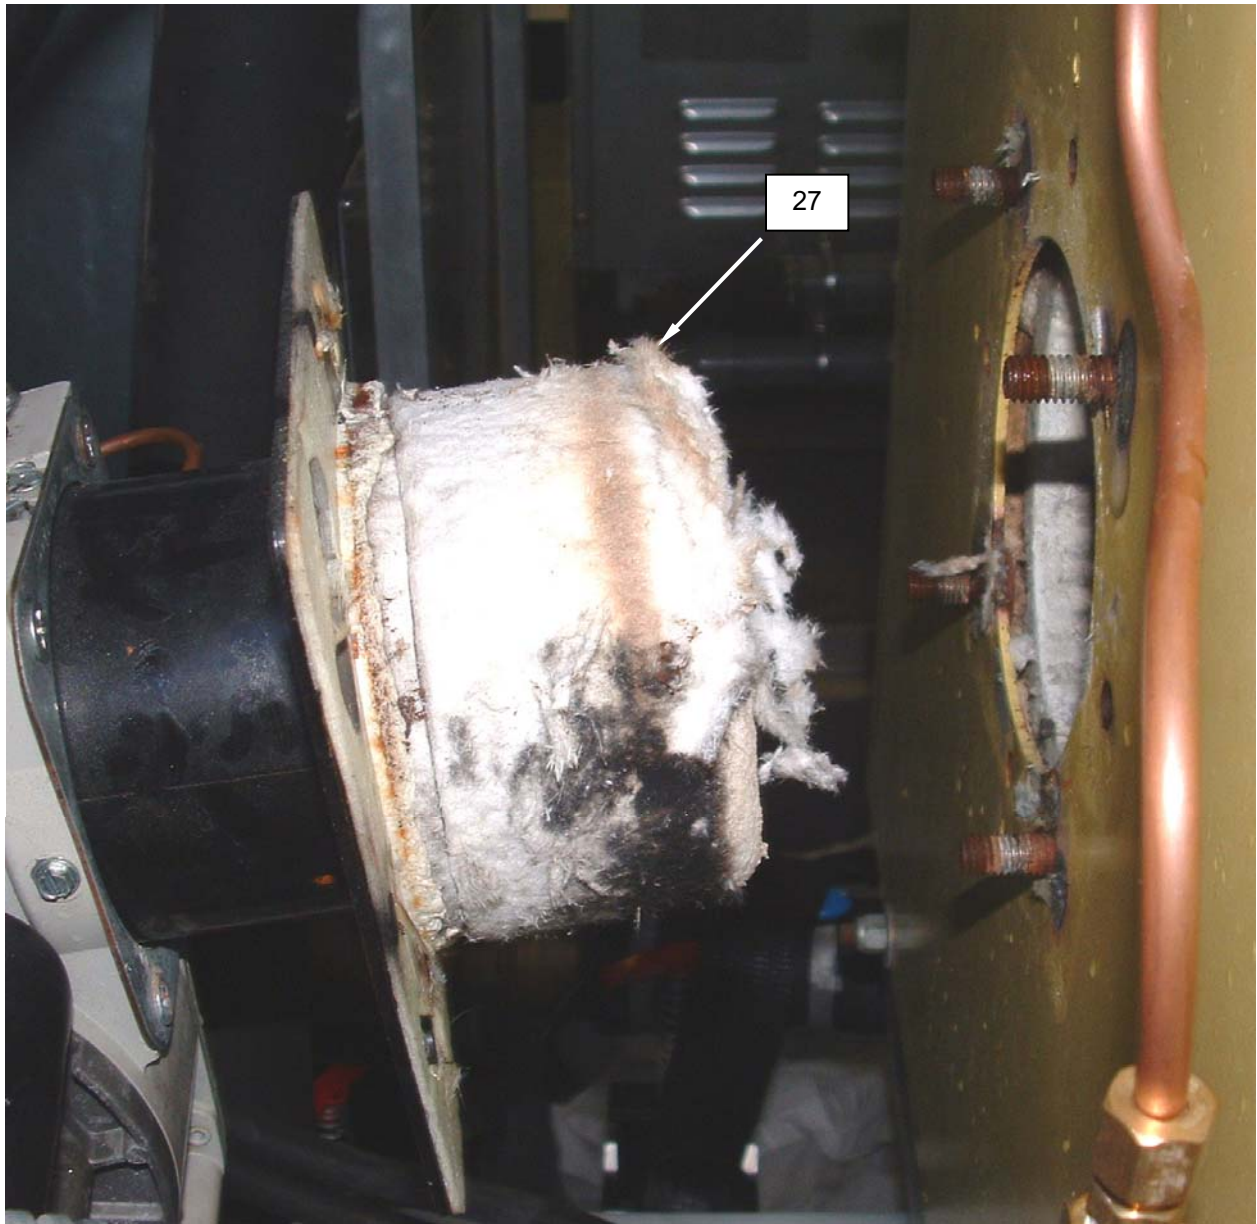

Figure 14. Replace the Burner Assembly.
7. Ensure the insulating amulet (**Figure 14, Item 27**) is in place.